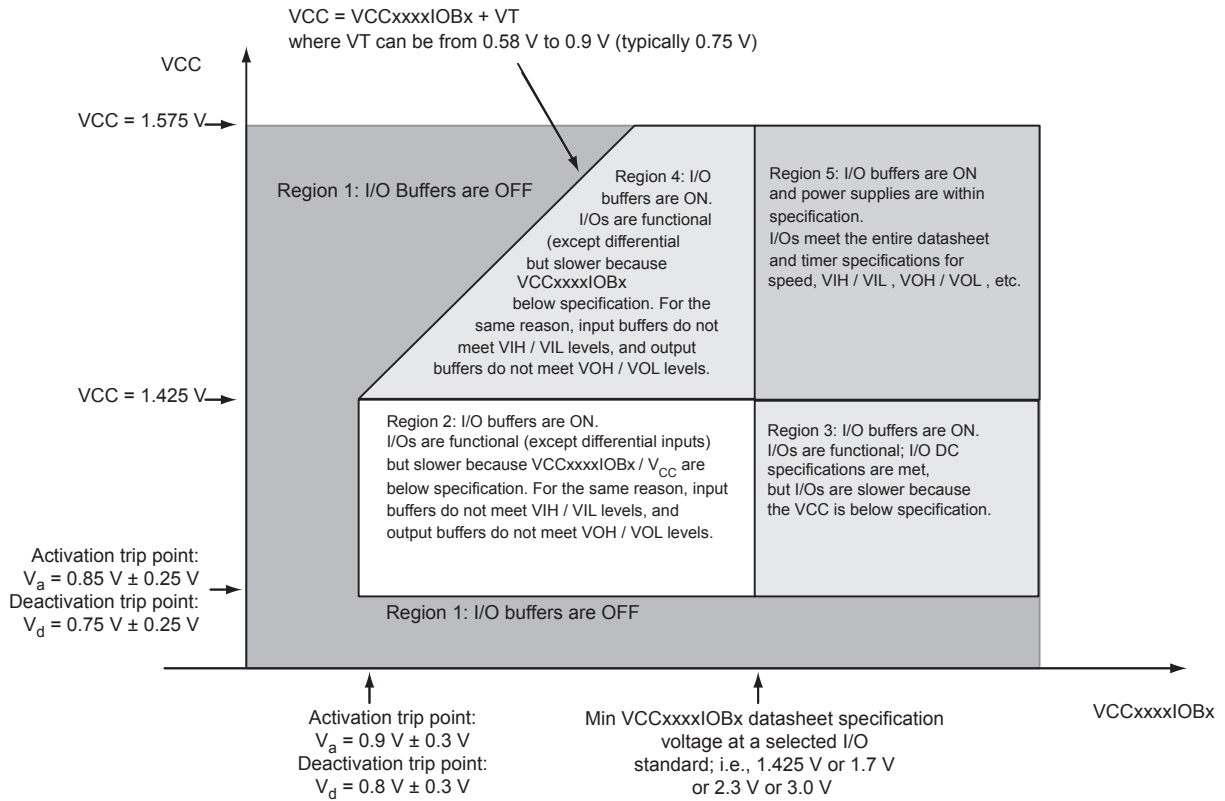

Figure 2-1 • I/O State as a Function of VCCxxxxIOBx and VCC Voltage Levels
Sophisticated power-up management circuitry is designed into every SmartFusion cSoC. These circuits ensure easy transition from the powered-off state to the powered-up state of the device. In addition, the I/O will be in a known state through the power-up sequence. The basic principle is shown in Figure 2-1 on page 2-6.
1. VCC and VCCxxxIOBx are above the minimum specified trip points (Figure 2-1 on page 2-6).
The Microsemi SoC Products Group recommends using monotonic power supplies or voltage regulators to ensure proper power-up behavior. Power ramp-up should be monotonic at least until VCC and VCCPLLx exceed brownout activation levels. The VCC activation level is specified as 1.1 V worst-case (see Figure 2-1 on page 2-6 for more details).